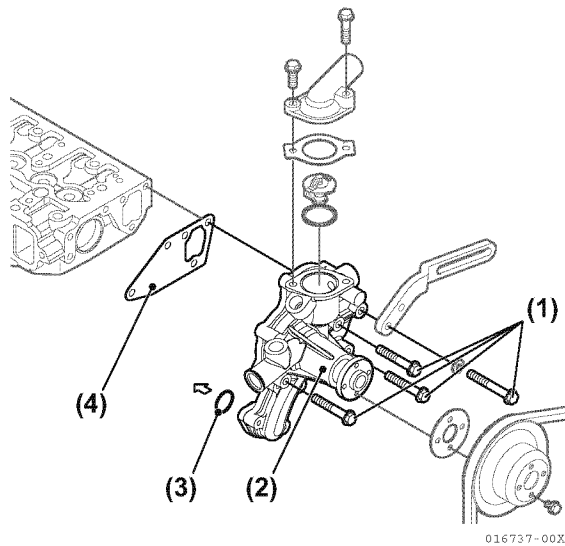

Figure 7-29
5. Remove four bolts (**Figure 7-29, (1)**) and remove coolant pump (**Figure 7-29, (2)**). **NOTICE:** Use caution when removing old gasket to avoid damage to the sealing surface of the cylinder block.
6. Remove the old gasket (**Figure 7-29, (4)**) and clean any material off from cylinder head. **NOTICE:** NEVER disassemble coolant pump. It is difficult to disassemble and, once disassembled, even more difficult to reassemble. Replace coolant pump assembly as necessary.
7. Check new gasket (**Figure 7-29, (4)**) and new O-ring (**Figure 7-29, (3)**) fit on cylinder head and cylinder block before proceeding.